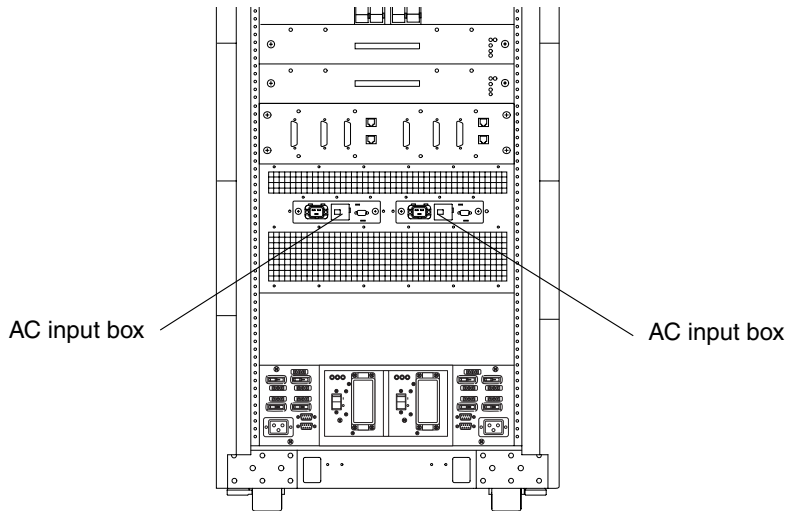
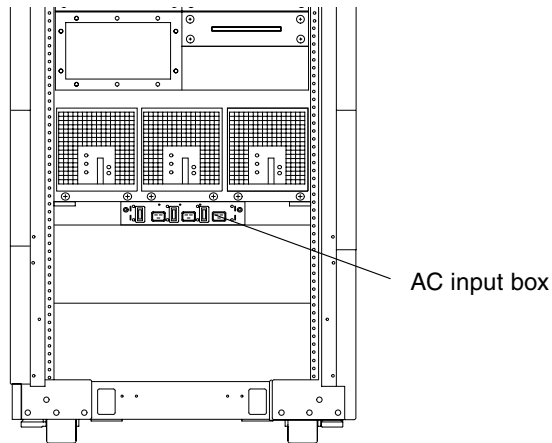
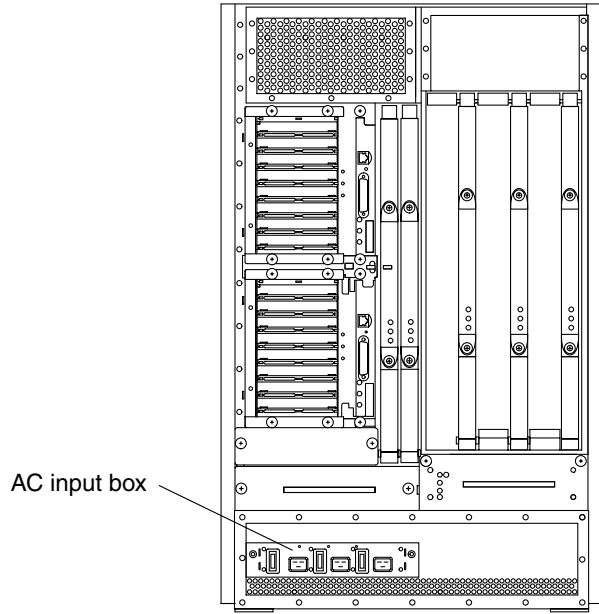

FIGURE 2-2 AC Input Boxes—Sun Fire 6800 System—Rear View
FIGURE 2-3 AC Input Box—Sun Fire 4810 System—Front View
FIGURE 2-4 AC Input Box—Sun Fire 4800 System—Rear View
3. Turn off the AC input box(es) (FIGURE 2-2, FIGURE 2-3, FIGURE 2-4).